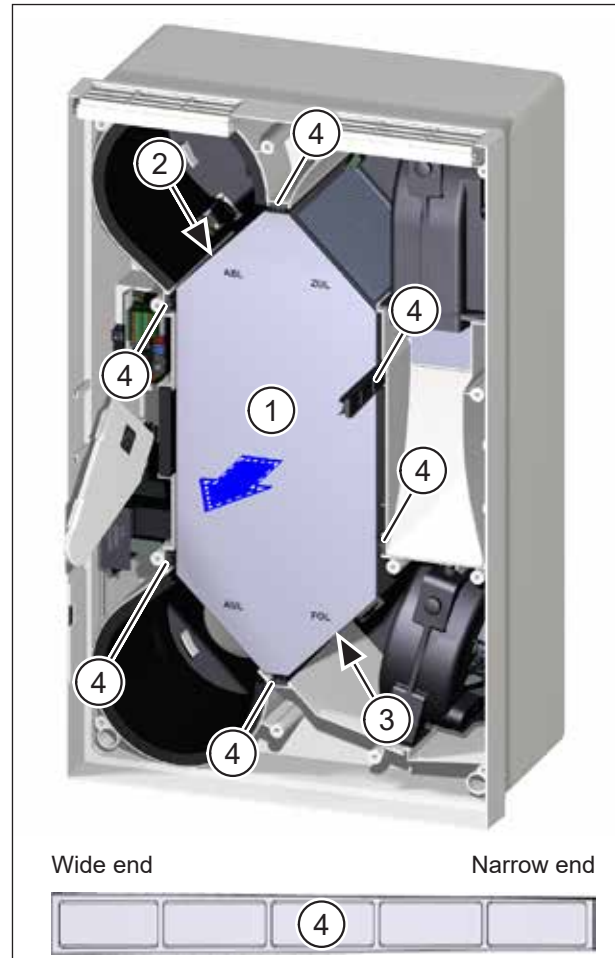
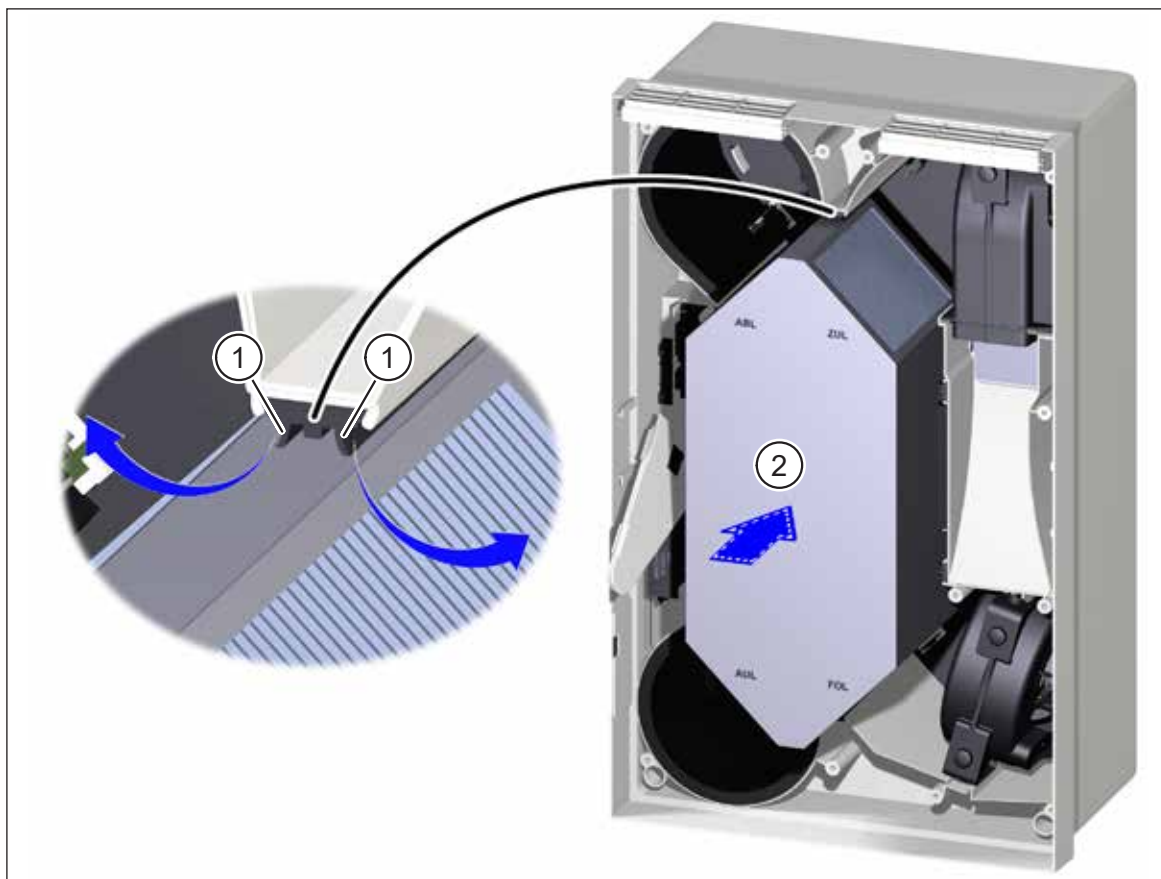

Fig. 24: Remove heat exchanger
Fig. 25: Insert heat exchanger
- ▶ Hold the heat exchanger (item 1 in Fig. 24) on the extract air side (labelled “ABL”, item 2 in Fig. 24) and the exhaust air side (labelled “FOL”, item 3 in Fig. 24).
- ▶ Carefully pull the heat exchanger forward and out. Make sure that the 6 sealing profiles (item 4 in Fig. 24) do not slide out with it.
- ▶ Immediately return any sealing profiles that do fall out to their original positions. Be careful to insert the narrow end of the sealing profile (see Fig. 24) first into the retainer.
- ▶ Apply a thin film of Vaseline to the sealing lips (item 1 in Fig. 25) of the 6 sealing profiles (item 4 in Fig. 24 on page 24).
- ▶ Re-insert the heat exchanger (item 2 in Fig. 25) into the housing.
- The sealing lips of the sealing profiles must point outwards (see arrows in Fig. 25).